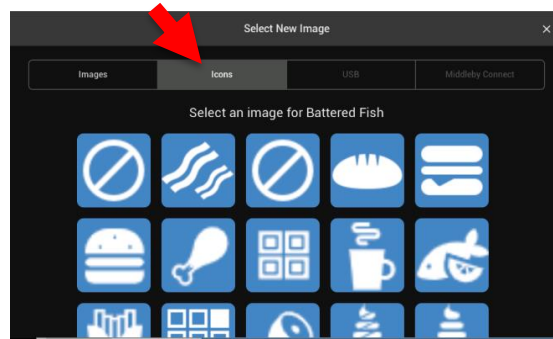

Figure 45 - Edit Recipe ICON
- Click on either **Images**, **Icons**, **USB** or **Middleby** tab at the top to choose image **Figure 45**